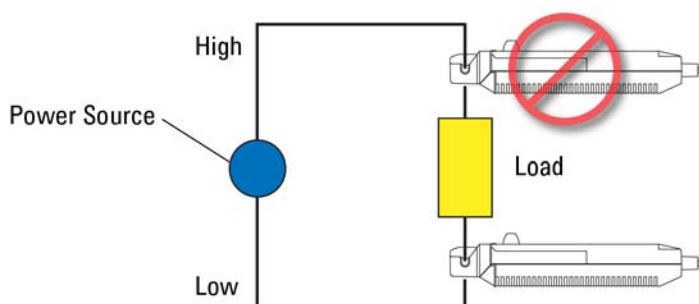

Figure 4 Clamp Onto the Low-Voltage Side of Circuit
- 6 At high frequencies, common mode noise may affect measurements taken on the high voltage side of circuits. If this occurs, reduce the frequency range of the measuring instrument or clamp onto the low-voltage side of the circuit as shown in Figure 4, as appropriate.